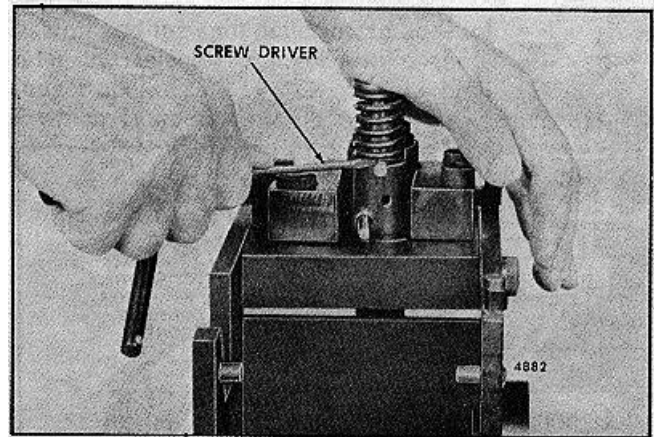

FIG. 9 - Removing Injector Follower Stop Pin
2. Compress the follower spring. Then raise the spring above the stop pin with a screw driver and withdraw the pin (Fig. 9). Allow the spring to rise gradually.